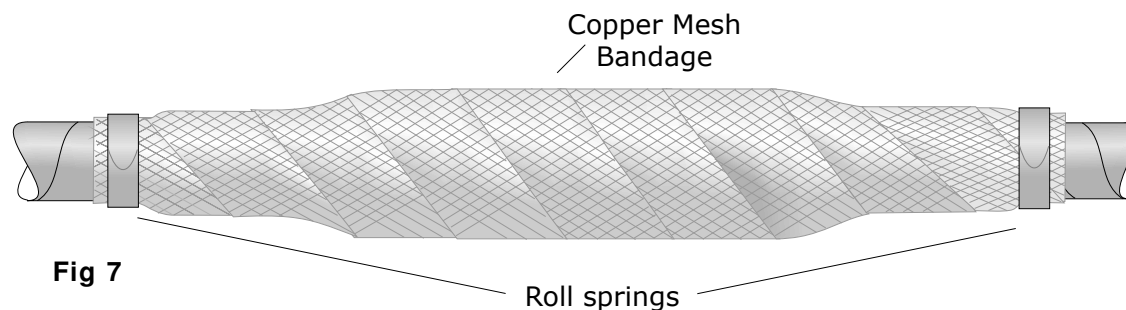

Fig 7
11. Apply two layers of the tinned copper mesh bandage with 50% overlap around the core extending onto the copper tape screens on both sides. Secure with the roll springs supplied as shown in Fig 7.